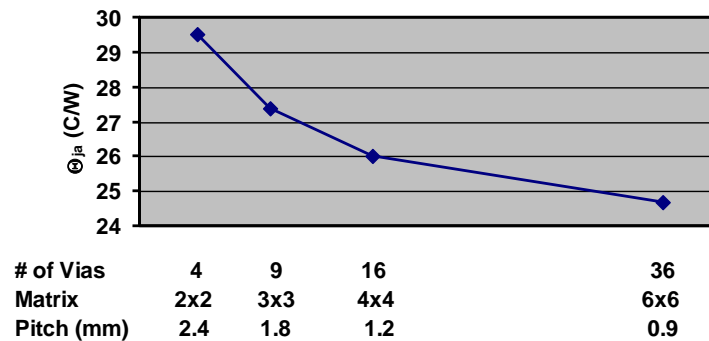

Figure 6. Effect of Number of Thermal Via on Package Thermal Performance
If application requires effective electrical connection and/or conduction of heat through dielectric layers of PCB, thermal pad and vias are need (Figure 6):
- Number of thermal vias will depend on the power dissipation and electrical requirements. Experience and simulations from standard single row MLF® can be considered. Figure 6 shows the effect of number of vias on  $\Theta_{ja}$  plotted for a 7 x 7mm, 48 lead package, as an example.